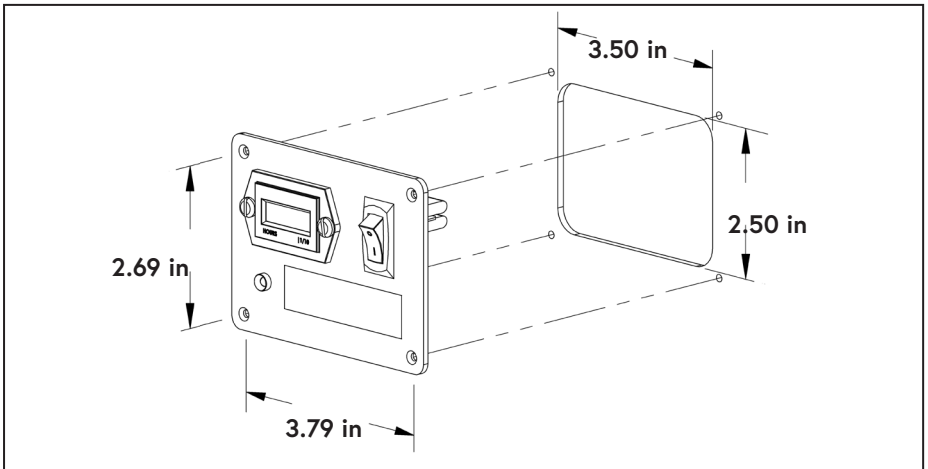

Figure 78 — Interface Panel mounting dimensions
- Install the Interface Panel in a suitable location (Figure 78).